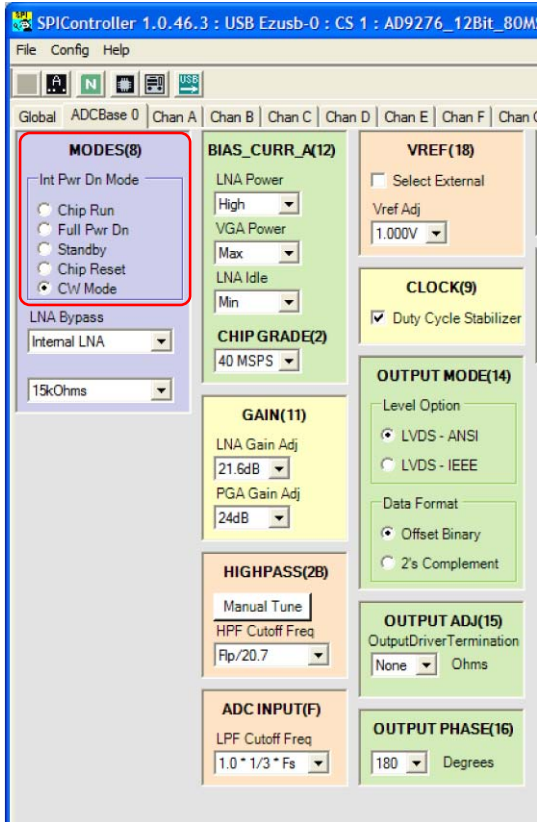

Figure 17. SPI Controller, MODES(8) Box
4. In the **ADCBase 0** tab of the **SPI Controller**, find the **MODES(8)** box. Select the **CW Mode** option (see Figure 17).